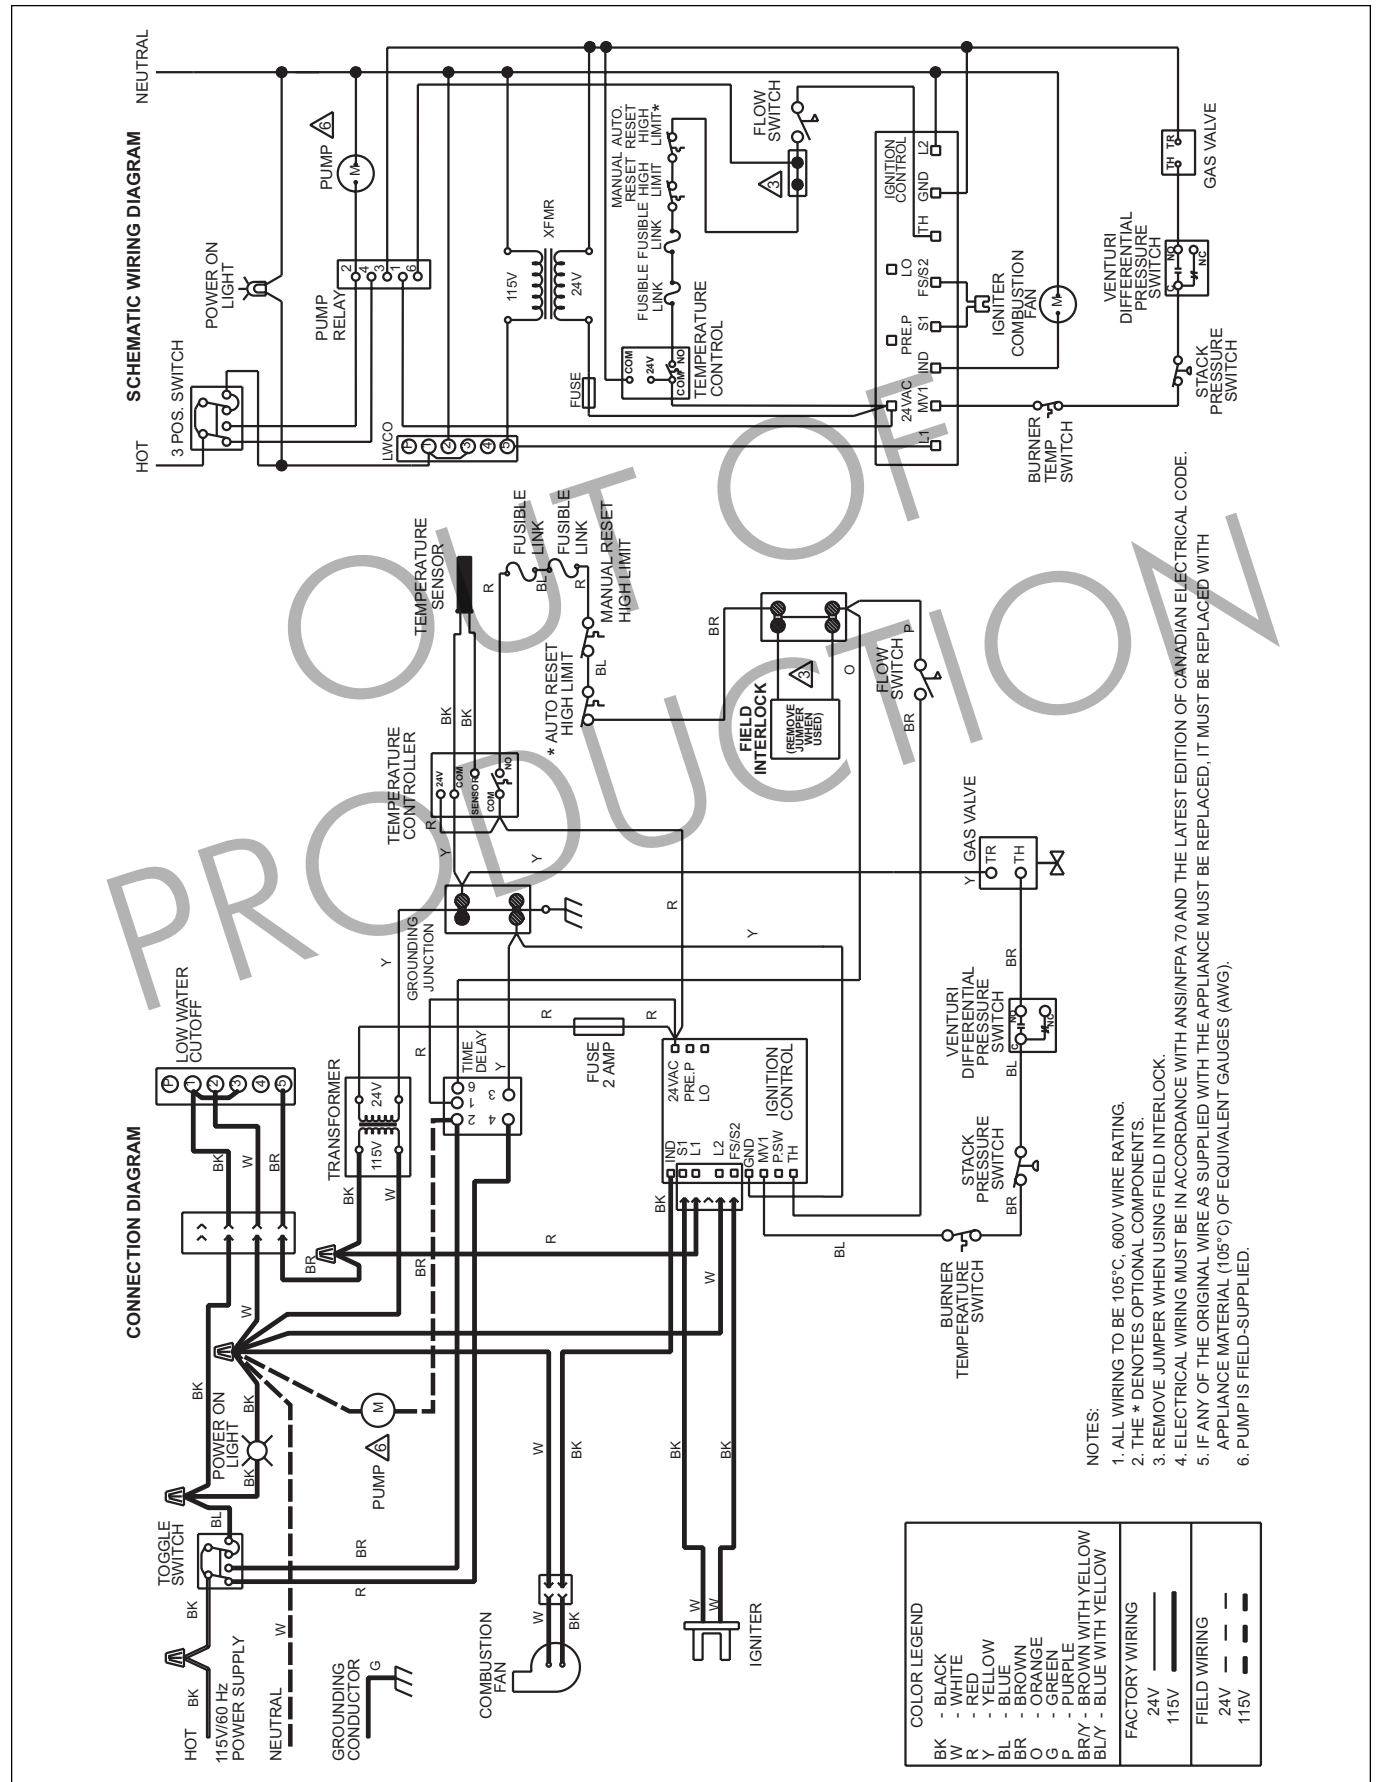

Figure 12. Wiring Diagram.
2. Wire the boiler and pump exactly as shown in the wiring diagram supplied with the boiler (see Figure 12).
4. Connect all field-installed devices (relays, timers, temperature devices, etc.) to the boiler wiring at points labeled "Field Interlock" (see Figure 12).